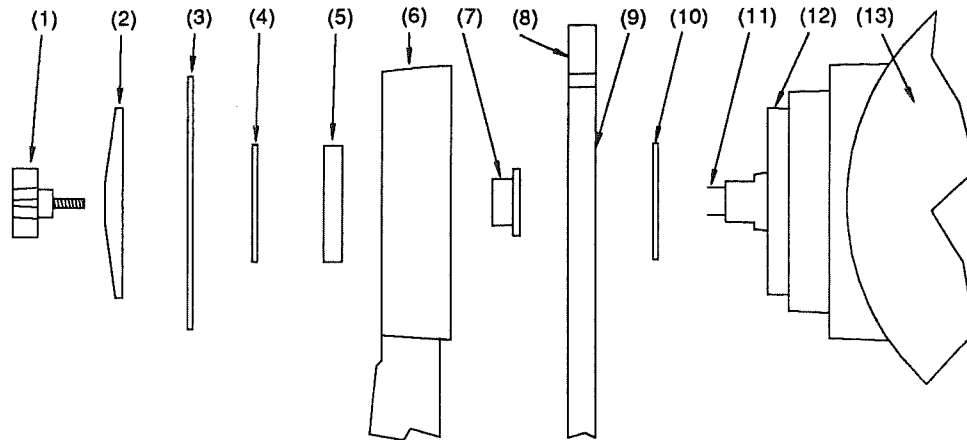

Fig. 6
1. Remove the Dec. lock knob (#1, Fig. 6).
2. Remove the Dec. clutch plate (#2, Fig. 6) from the two locating pins.